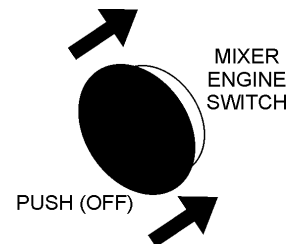

Figure 15. Engine ON/OFF Switch (OFF)
- After the engine cools, push the engine ON/OFF switch inward to the "OFF" position (Figure 15).